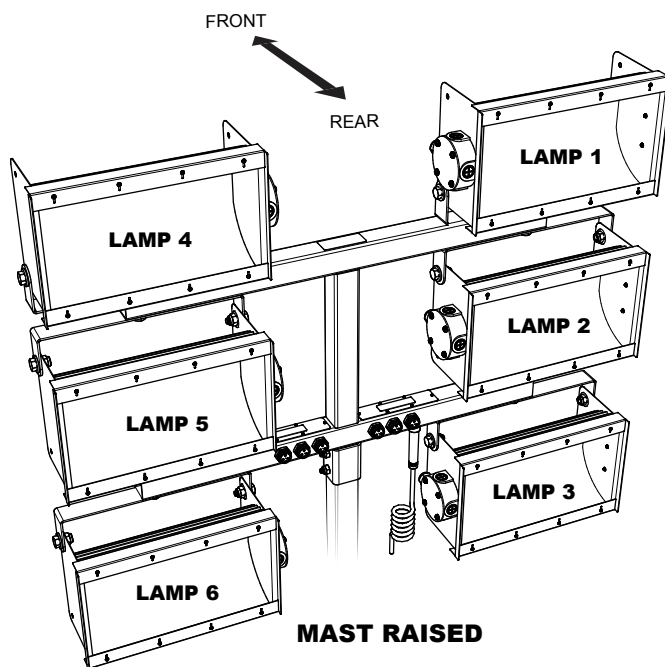

Figure 10. Lamp Orientation (MLTDCA6)
- Switch the appropriate circuit breakers to the ON position for the lamps (Figure 10) that you want to turn on as detailed in Table 3.